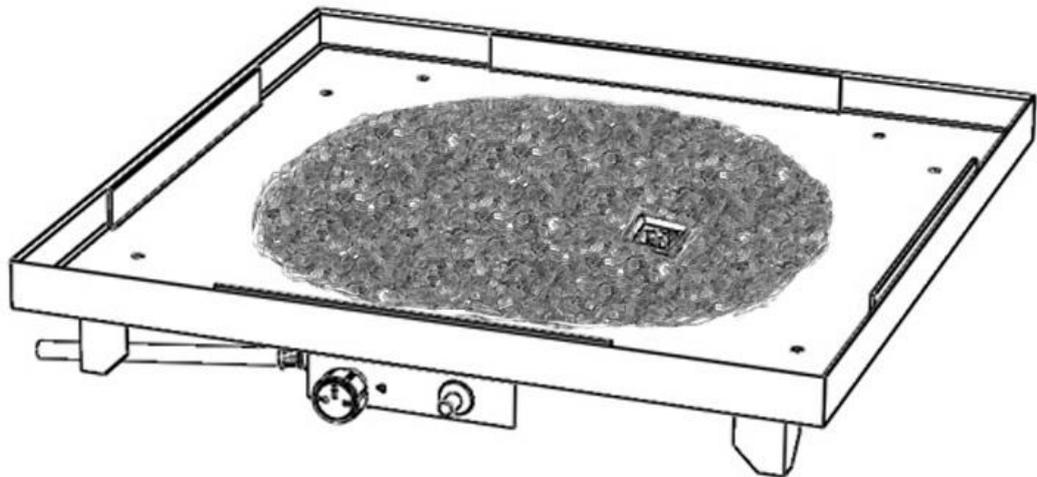

Figure 5
6. Pour the fire glass over the burner and spread it evenly. It will not cover the entire base. Remove any fire glass from inside the ignition screen. See Figure 5.